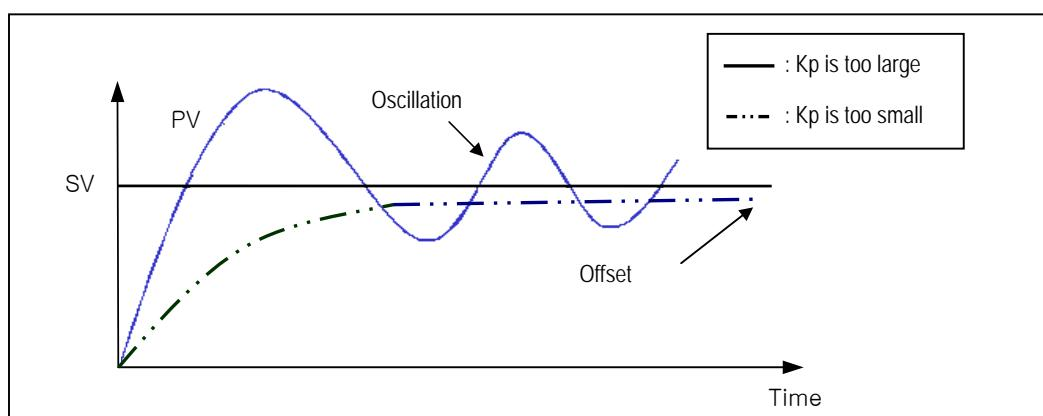

Fig. 7.2 The relation between Proportional constant (Kp) and present value (PV)
- ④ If the  $K_p$  is too large, the PV reaches to the SV swiftly, but it may causes a bad effect like oscillations.
- ⑤ If the  $K_p$  is too small, oscillation will not occur. However, the PV reaches to the SV slowly and an offset may appear between PV and SV shown in the Fig. 7.2.
- ⑥ The manipulation value (MV) varies from 0 to 4,000. User can define the maximum value of MV (MV\_MAX) and minimum value (MV\_MIN) within the range 0 ~ 4,000.
- ⑦ When an offset remains after the system is stabilized, the PV can be reached to the SV by adding a certain value. This value is called as bias value, and user can define the bias value